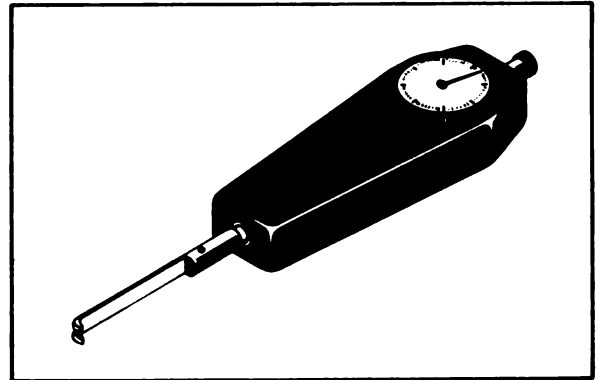

Figure 6-6. Pull Test Tool (Burndy TR)
d. Pull-test the inserted taper pin with Burndy TR tool, shown in figure 6-6. Place the tip of the test tool around the inserted taper pin and apply tension. If the pin is firmly seated the test tool will release without disturbing the connection.